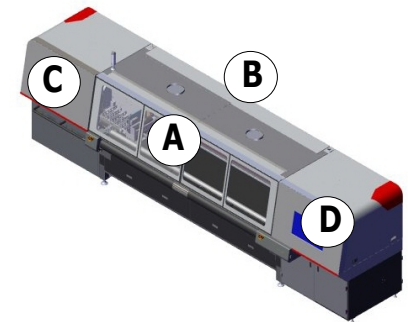

Figure 6-1 Printer Front View
1. With carriage in Home position, open the printer front (location A) and rear (location B) doors and carriage (location C) and operator-end (location D) compartment doors to expose the cable carrier support shelf. See Figure 6-1.